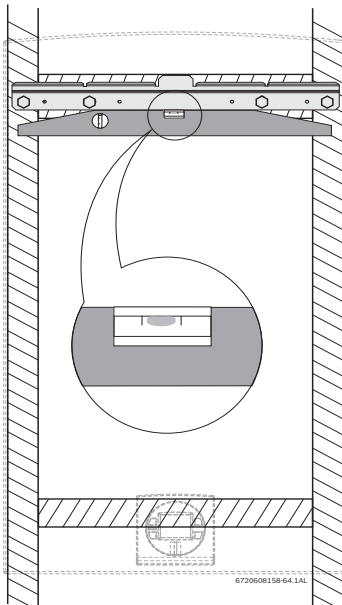

Fig. 30 Leveling the mounting bracket on the studs
- ▶ Secure the wall mounting bracket provided with the heater to the wall surface. The heater must be kept level on the wall surface, see Fig. 30, page 25.